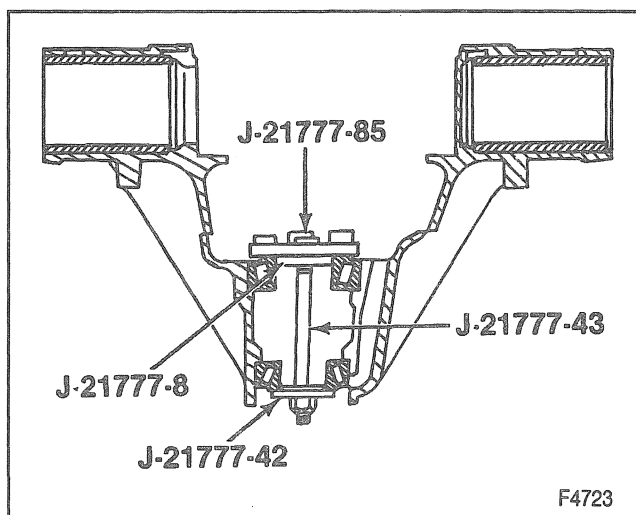

Figure 12—Gauge Plate Tools
Pinion Depth Adjustment (Figures 12 through 14)
4. Install J 21777-8, J 21777-42, J 21777-85, and J 21777-43 to the pinion bore (Figure 12).